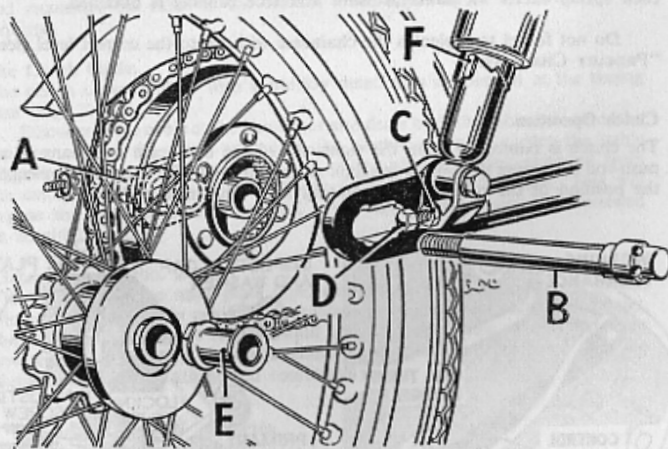

FIG. 21. Rear wheel removal, also showing the position of the adjuster bolts for moving the wheel. (Speedometer drive not shown).
Put the machine on its centre stand. To adjust the chain, the rear wheel must be moved. First, the nut securing the torque arm to the brake plate must be slackened slightly so that the plate may pivot freely. Slacken the spindle (B) Fig. 21, on the right-hand side of the machine, a few turns, and then nut (A) just sufficiently to allow the wheel to move.